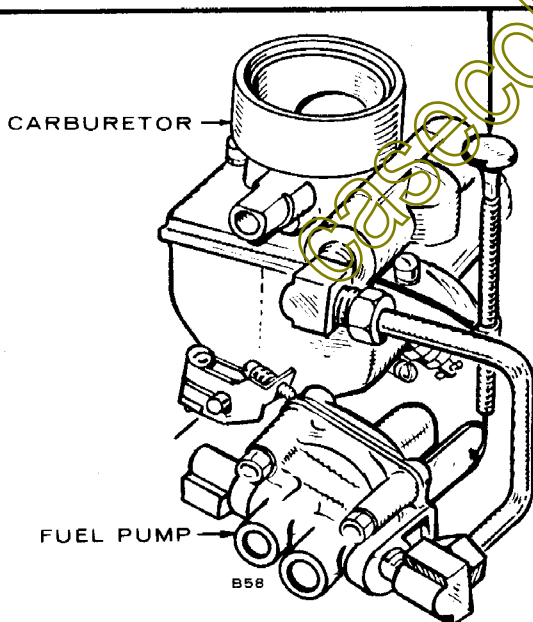

FIGURE 1. ENGINE PRIMING (MANUAL START)
1. Engine priming before starting is shown in Figure 1 (manual start only).